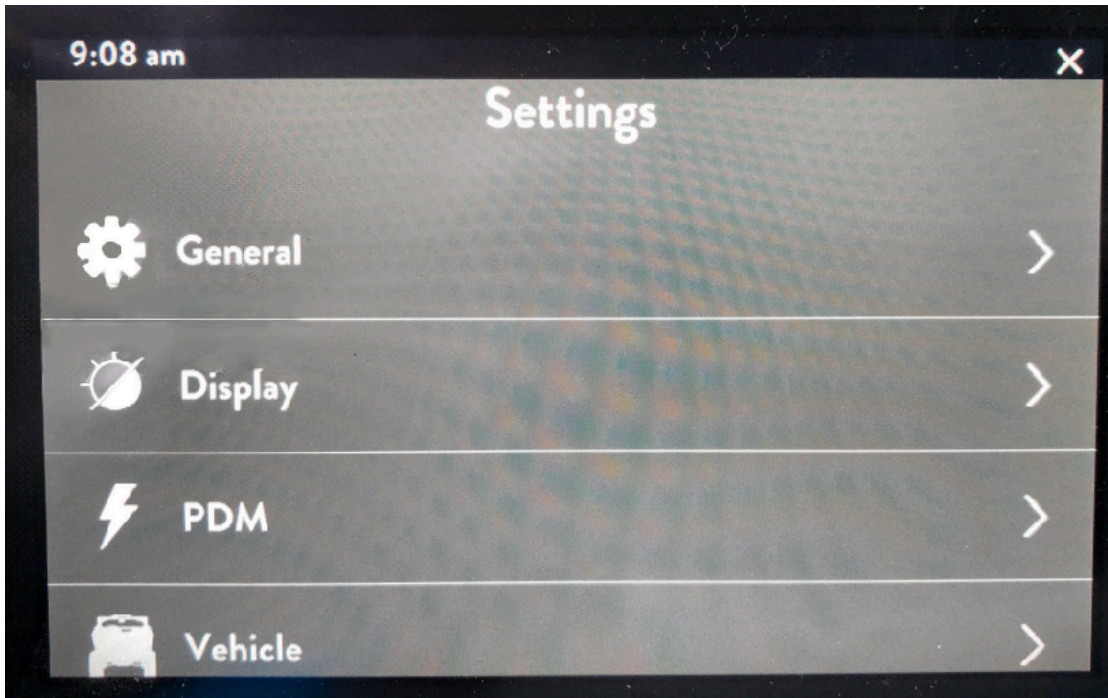

Figure 40 - Setting Screen
3. Once the access code has been entered, the correct chassis software for the Titan Connect system will need to be uploaded to the PDM. Reference Figures 40 through 44 which show the screen navigation for uploading the chassis software with descriptions. See individual chassis sections for which Make Update to install.